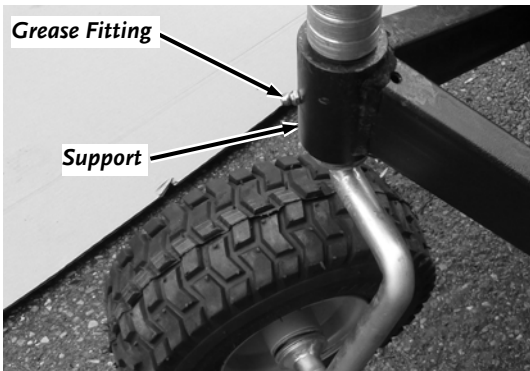

Figure 39
4. Wipe all dirt, etc., from the Wheel Support fitting with a clean cloth (Figure 39).